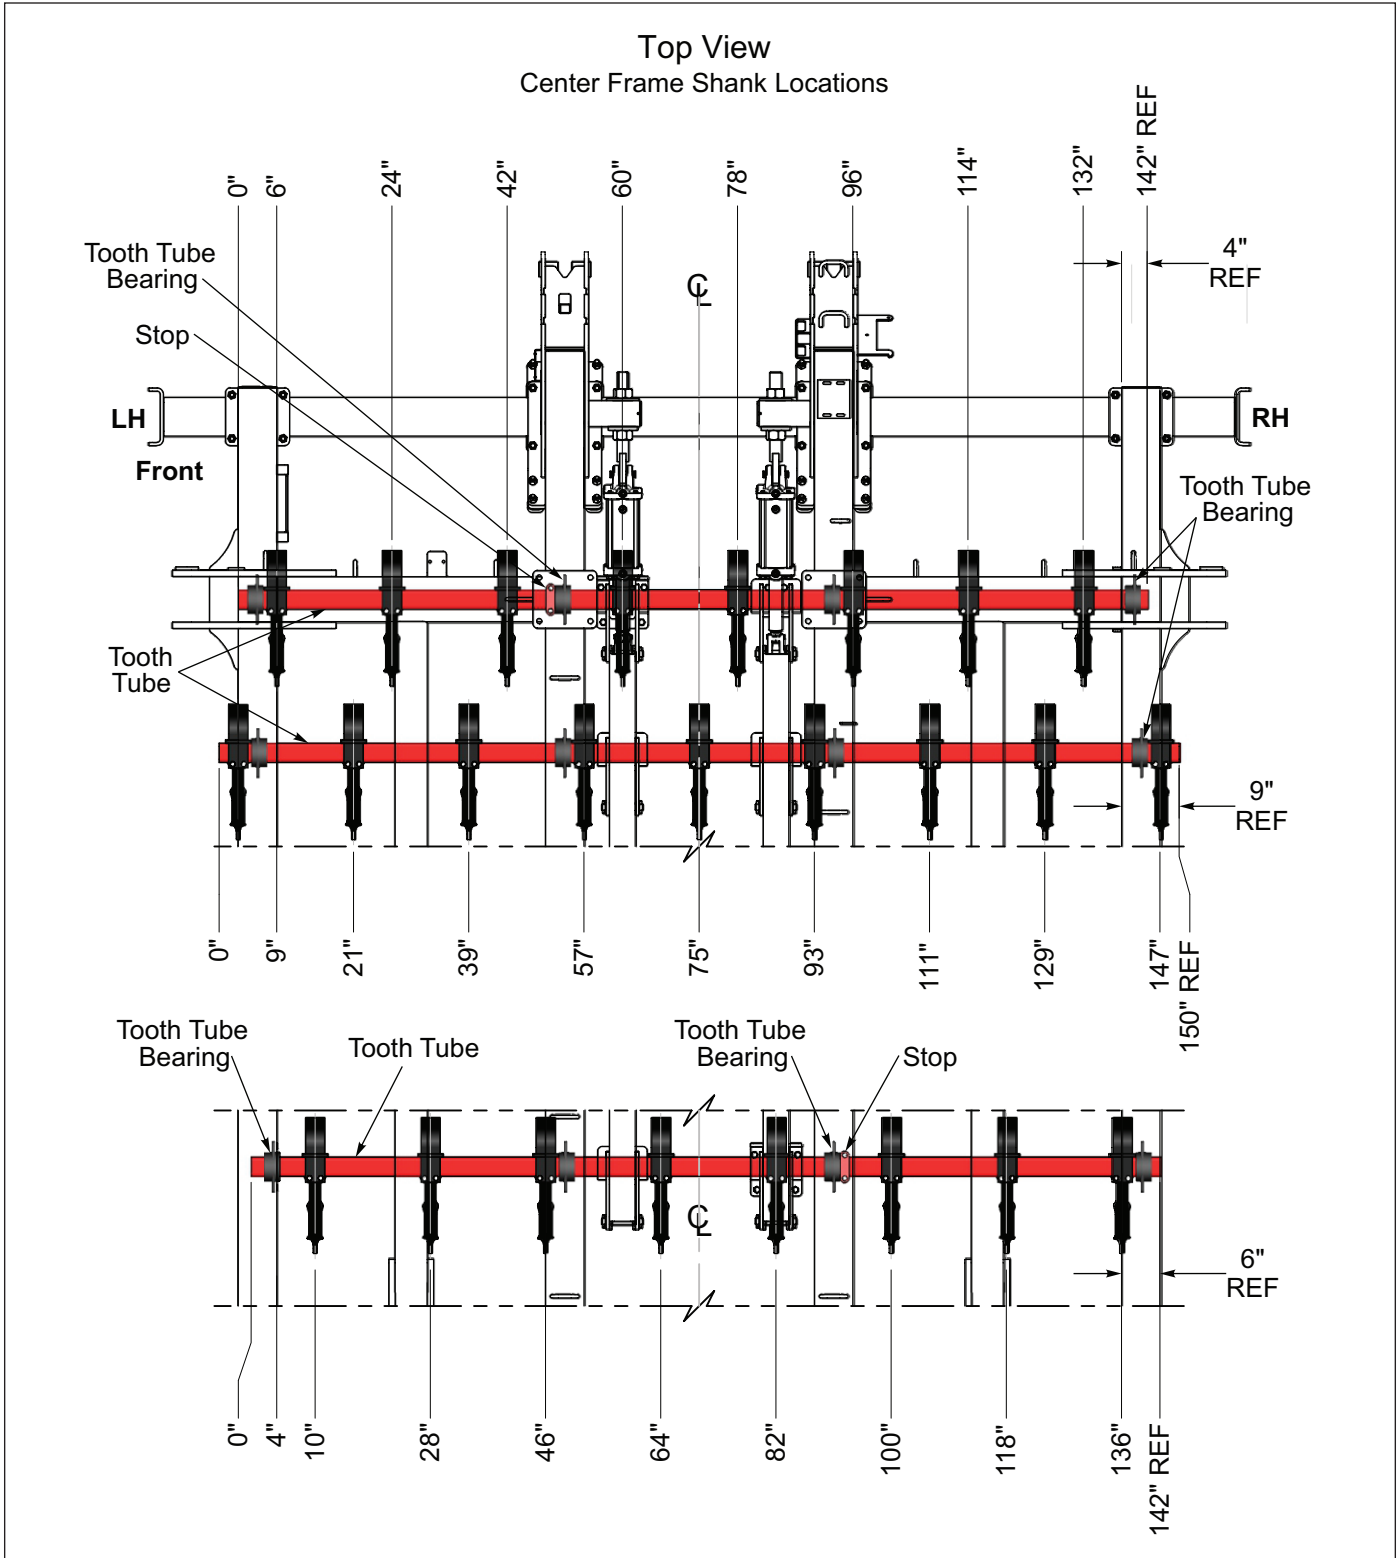

Figure 2-30: Center Frame Shank Mounting Dimensions
1. After marking the tubes for the shank locations, slide the Tooth Tubes into the Tooth Tube Bearings. The 142" Tooth Tube in the front and rear Tooth Tube Bearings and the 150" Tooth Tube in the middle Tooth Tube Bearings. See Figure 2-30.
3. Mount the Shanks to the Tooth Control Tubes using two 1/2-13 x 5 Bolts and Locknut. **See Figure 2-30** for Center Shank Mounting Dimensions.